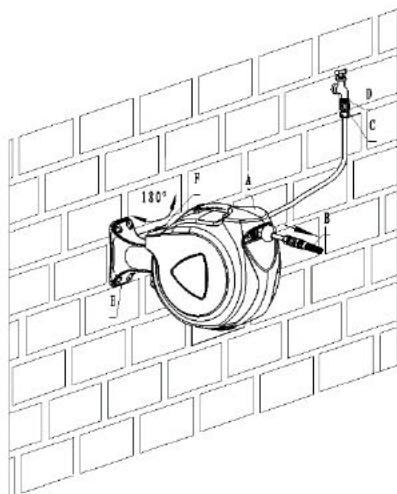

Fig. 8
6. Here the reel is fully installed and can swivel 180°. (Fig. 8)